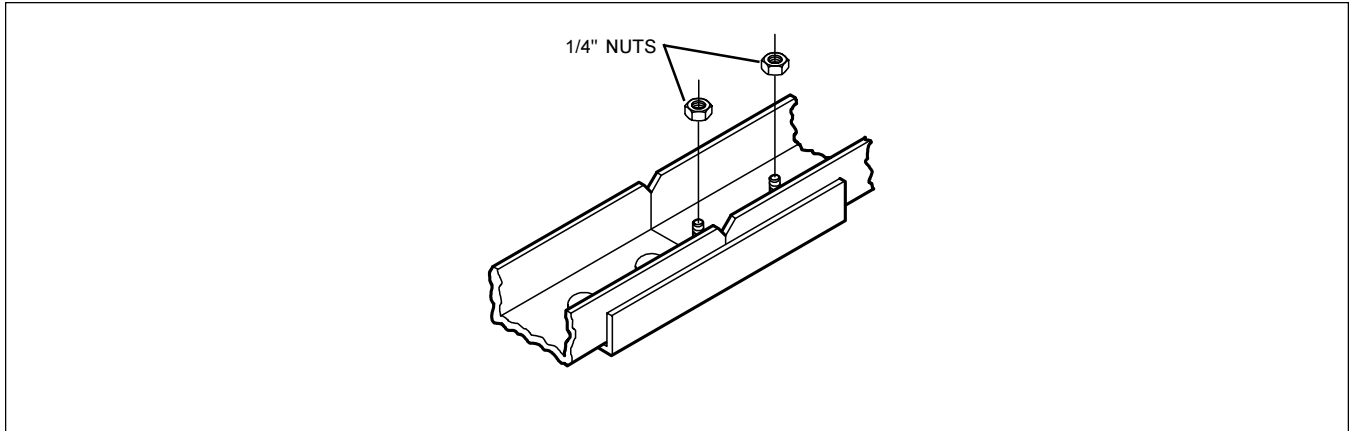

Figure 3 - Recorder Assembly
1. The Recorder is shipped with the track separated into two sections. Assemble the two sections using two 1/4" nuts on the studs shown in Figure 3.